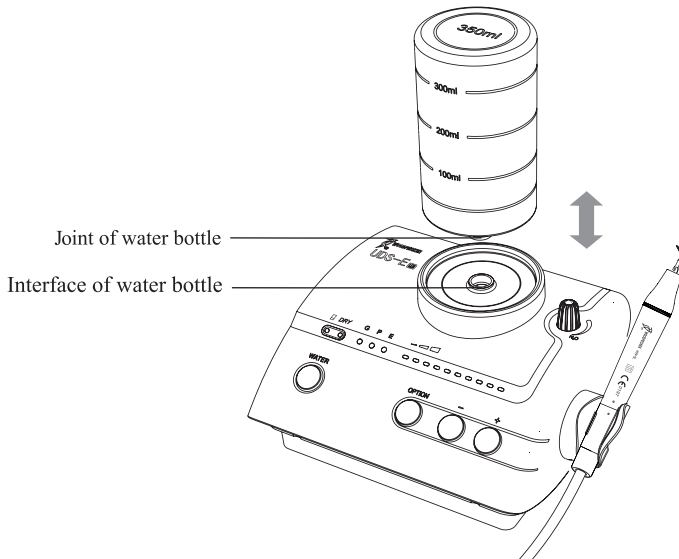

Figure 4
Install the bottle reversely to the connector with adequate purified water (See Figure 4).
d) Place the bottle with water upside down, insert the joint into the interface vertically (See Figure 4).